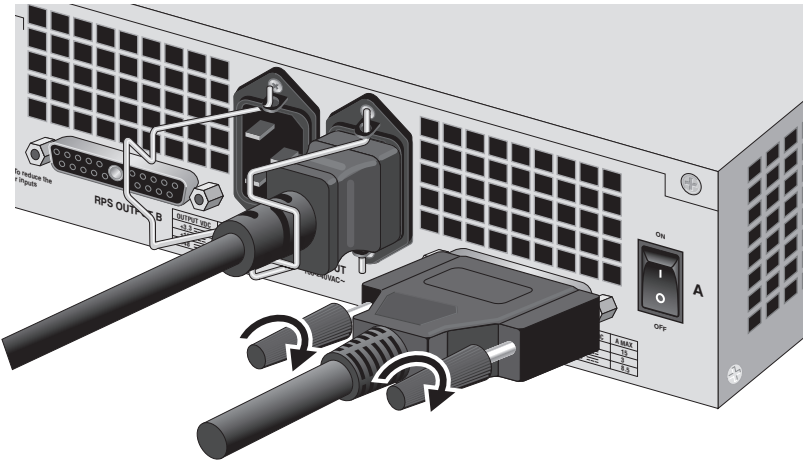

Figure 14. Securing the RPS Cable to the AT-RPS3104 Unit
8. Tighten the thumb screws on the connector (see Figure 14).